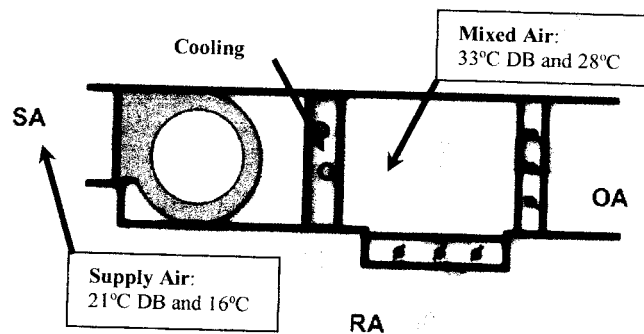

Figure Q2(c) / Rajah S2(c)
- (c) The air temperature of dry bulb temperature (DB) and wet bulb temperature (WB) before entering the cooling coil as shown in **Figure Q2(c)** is 33°C DB and 28°C WB. After entering the cooling coil, the temperature change to 21°C DB and 16°C WB. From psychometric chart;